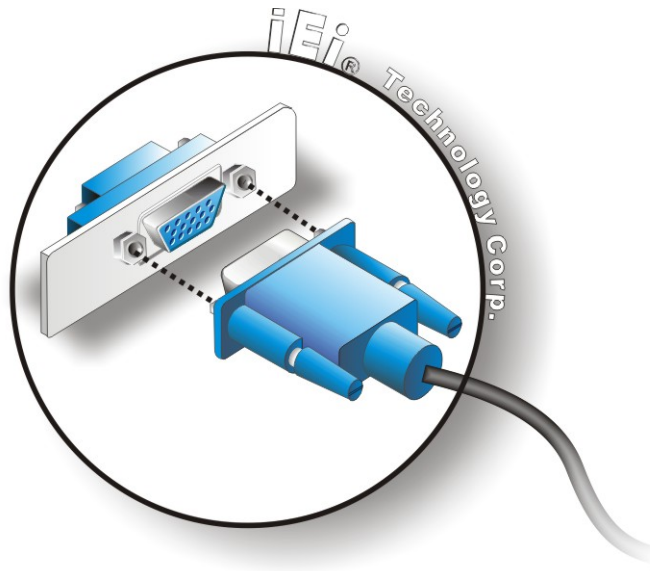

Figure 5-23: VGA Connector
- Step 3:** **Insert the VGA connector** Once the connectors are properly aligned with the insert the male connector from the VGA screen into the female connector on the IMB-Q354. See **Figure 5-23**.